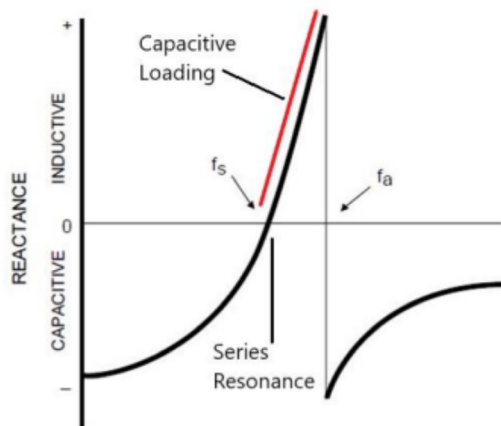

Figure 2 - Parallel Resonance Mode showing the Capacitive Load Region.
Figure 2 depicts the reactance curve of a quartz crystal which exhibits two zero-phase frequencies, the series resonant frequency (F_s) where reactance is zero and resistance is minimal, and the anti-resonant frequency (F_a) where resistance peaks. F_a should not govern oscillator circuits. The red-highlighted slope between F_s and F_a represents the inductive reactance slope, defining the capacitive loading (CL) region for parallel resonance crystals in Pierce Oscillators.
Looking back to Figure 2, the two crystals will operate at opposite ends of the capacitive loading region. The 20pF CL will have a higher capacitive reactance (X_c) to balance the higher inductive reactance (X_l), while the 8pF CL will have a lower X_c .